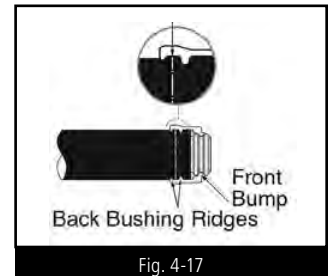

Fig. 4-17
STEP 3 LOCATE AND MARK 4TH CORRUGATION PEAK (FIG. 4-17)